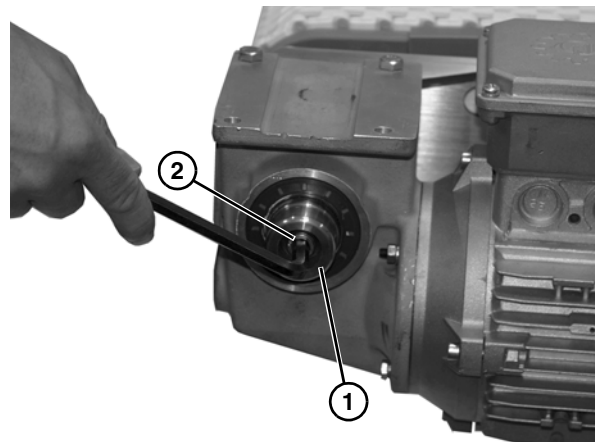

Figure 18
8. Install gear reducer end cap (**Figure 18, item 1**) with socket head screw (**Figure 18, item 2**).